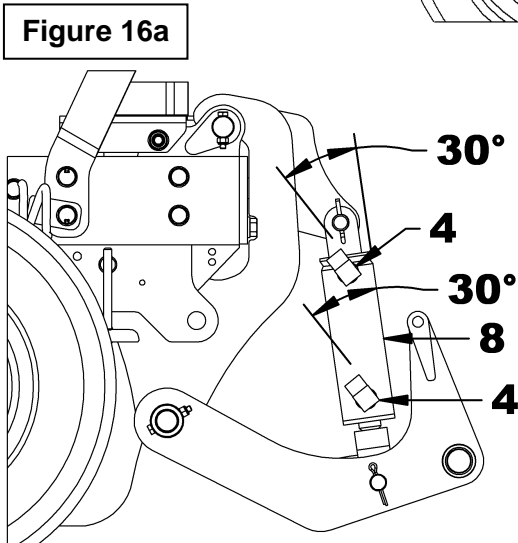

Figure 16a
2. **Figure 16 and 16a:** Apply thread sealant (Teflon tape) to the male threads of the two 3/8"NPT male x 3/8"NPT female 90 ° elbows, (item 4) and screw on the ports of the hydraulic 2" x 5" cylinder (items 8a and 8b) by positioning the elbows as shown on figure 16a.